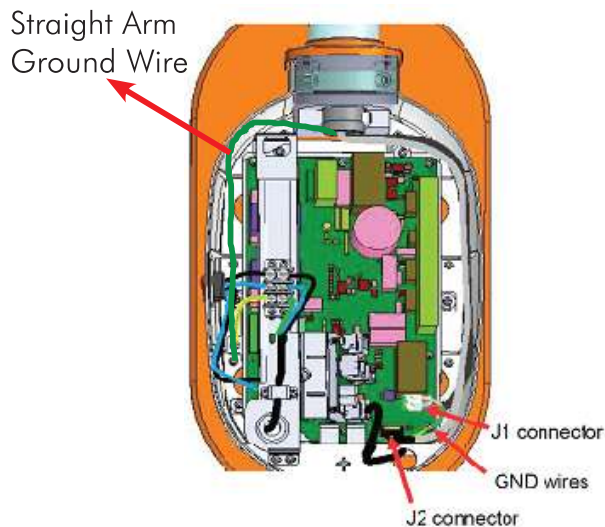

Figure 34
- Route the cables on the right side of the base unit as shown in Figure 34 .
- Connect the communication cable connector coming from scissor-arm to the J2 connector on the power board as shown in Figure 34 .
- Connect the wires of the inverter cable(Non-polarised) to the J1 connector using jewel screw driver as shown in Figure 34 .
- Connect the GND wires at the screw location available at the right bottom screw as shown in Figure 34 .